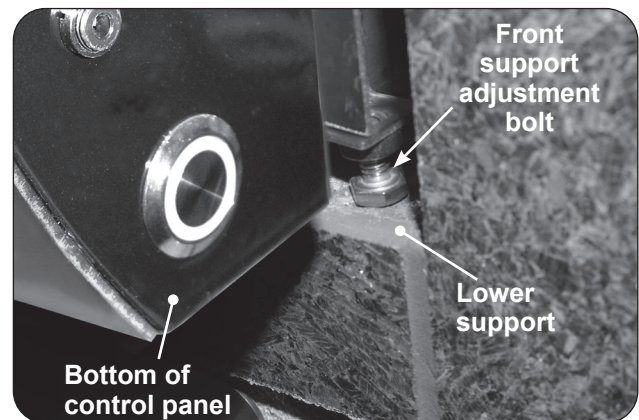

Fig. 22-3 Front support adjustment bolts
2. Rotate the front support adjustment bolts (up or down) until the grill hanger rests flush on the countertop, AND, the adjustment bolts are touching the supporting structure found at the bottom of the cutout (lower support). Use a 7/16" open-end wrench as needed. See Fig. 22-3.